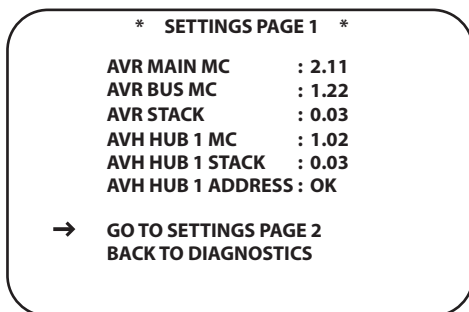
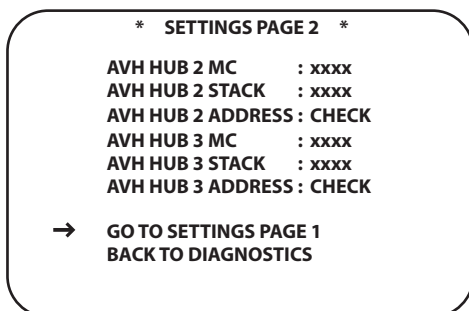

Figure 78.
Figure 79.
If a system has only one AVH21 AV Hub, the Settings screens should appear as shown in **Figures 78 and 79**. The values associated with AVH Hubs 2 and 3 will appear as shown in **Figure 79**, indicating no connection. If a second or third AVH21 is connected and the **SETTINGS PAGE 2** screen does not populate with values indicating confirmation of connections and communication, check connections between AVH21 hubs and AVH power connections to find the problem. If problem persists, see the **Multiroom Troubleshooting Guide** section.
4. With the cursor next to **SETTINGS**, press the **Set Button 18**. The **SETTINGS PAGE 1** screen will appear (**Figure 78**).
5. To view Page 2, with the cursor positioned next to **GO TO SETTINGS PAGE 2**, press the **Set Button 18**. **SETTINGS PAGE 2** will appear (**Figure 79**).